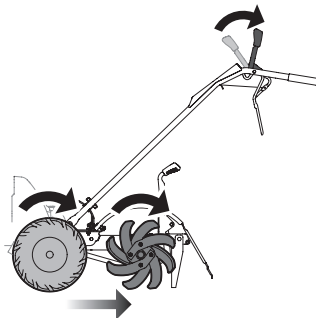

Figure 18
- c. While driving in reverse the tines will also rotate in reverse. See Figure 18.